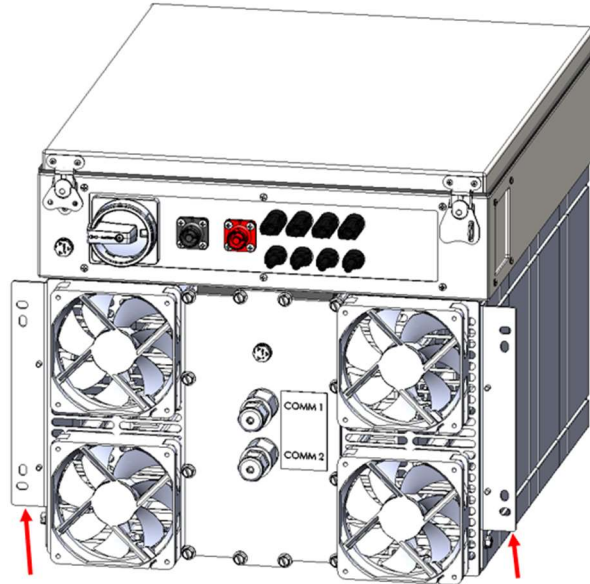
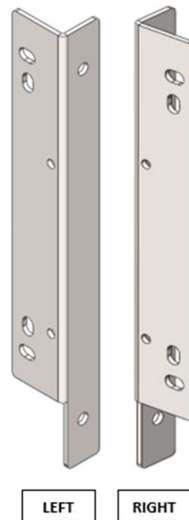

FIGURE 12: SPOT/BOSS WITH FEED AND MOUNTING BRACKETS
FIGURE 13: SPOT/BOSS RACK MOUNTING BRACKETS
- SPOT/BOSS with FEED units (here-on called 'SPOT/BOSS' units) shown in Figure 12 can be unpackaged and lifted onto a table or work bench to attach mounting brackets (Figure 13)
- Using (4) of the provided  $\frac{1}{4}$ "-20 x  $\frac{3}{4}$  Self Tapping-Type F Bracket Mounting Screws, securely attach the left and right mounting brackets to the sides of the SPOT/BOSS unit, so that 'wings' are flush to the front face